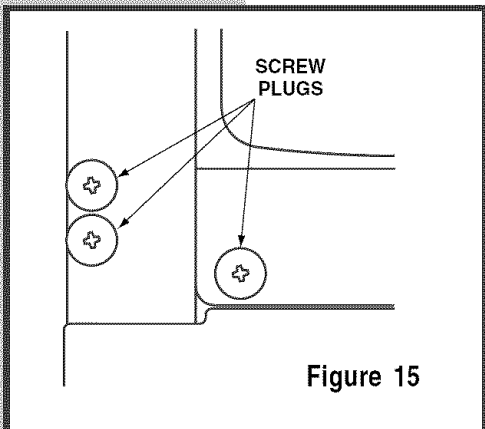

Figure 15
- 2 Remove plastic screw plugs (3 top and 3 bottom) from new hinge location (see **Figure 15**), and remove hinge pin hole plug in top of door (see **Figure 16**). Do not discard.